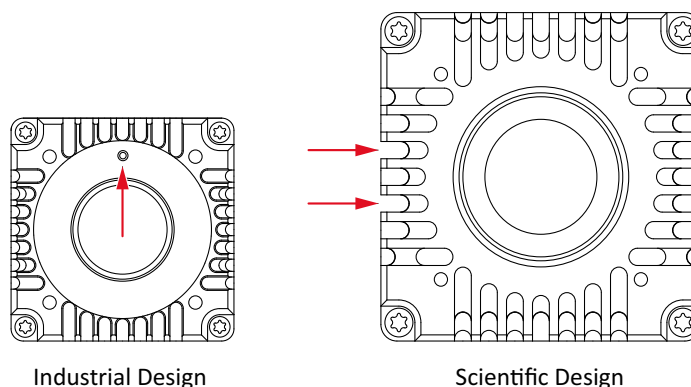

Figure 71: Position of safety screws on mount adapters for Goldeye G/CL
Mount adapters for Goldeye cameras are secured with locking screws, see Figure 71. These locking screws must be loosened before removing mount adapters.
- Loosen the locking screw (2, shown from back of adapter) on the outside of the mount adapter. See Figure 71 on page 254 for the position of the locking screws.
2. Unscrew the adapter (1) from the camera:
- Loosen the locking screw (2) on the outside of the mount adapter. See Figure 71 on page 254 for the position of the locking screws. Use a 1.3 mm hex key for **Goldeye G/CL-008 SWIR Cool TEC1, G/CL-032 SWIR Cool TEC2** models. Use a 0.9 mm hex key **for all other models**.